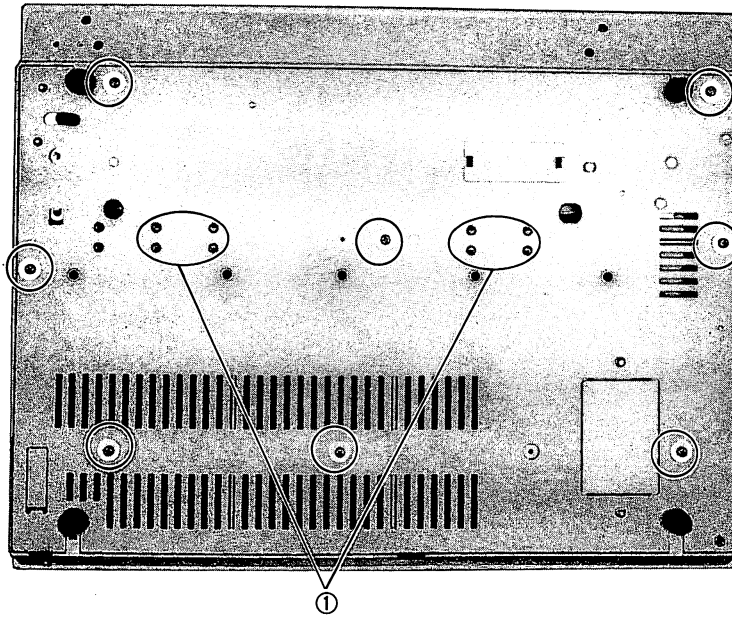
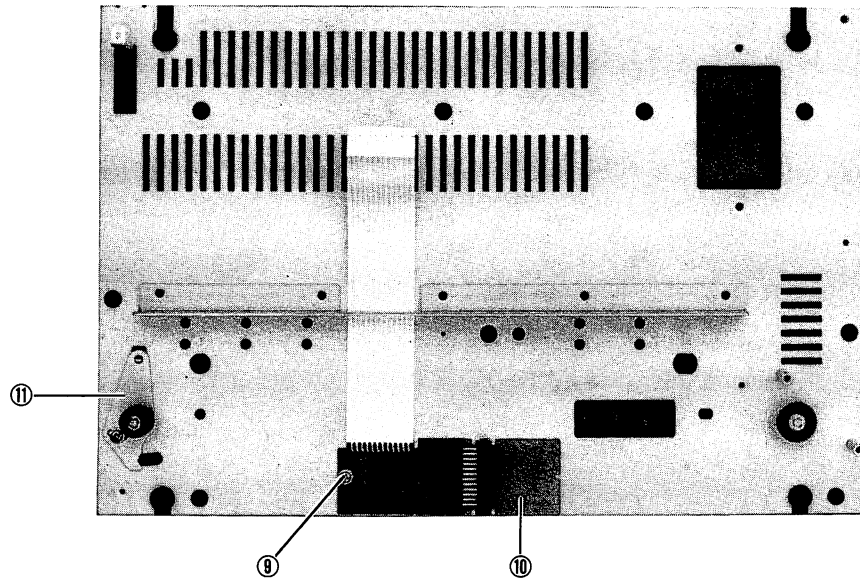

Fig. 4-12. Position of Hooks
Fig. 4-16. Belt Tension Plate Removal
4.2.13 Paper Feed Mechanism Removal (Figs. 4-12 and 4-13)
1. Remove the eight screws which secure the base plate from the rear side of the unit. (Refer to Fig. 4-12)
4. Remove screw ① from the lead wires on the carriage guide plate.
5. Remove head cable ② from the connector.
7. Remove the two fixing screws ③ to remove the carriage guide plate.
8. Remove the carriage guide shaft ④.
9. Remove screws ⑤ to remove the carriage guide shaft holder.
10. Remove screws ⑥ to remove the PF motor holder.
11. Remove screws ⑦ to remove the power transformer.
16. Remove screw ⑨ to remove printer circuit board plate ⑩. The belt tension plate ⑪ may be removed at the same time (Figure 4-16).